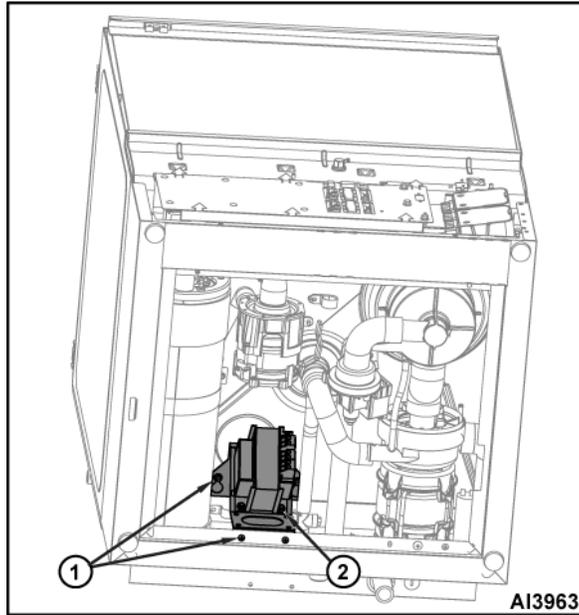
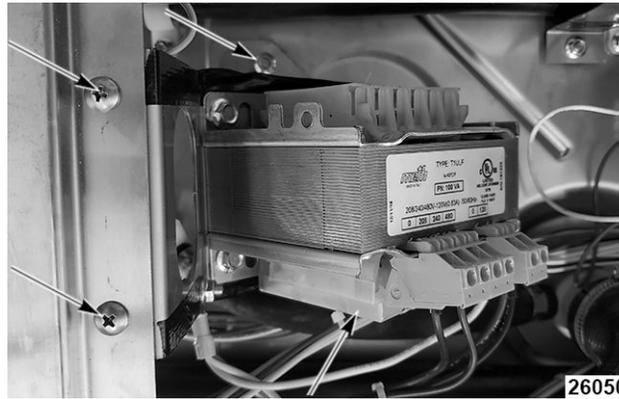

Fig. 30
Fig. 32
4. Loosen hardware from transformer bracket (1, Fig. 30).
5. Remove transformer with bracket out of machine (Fig. 32), then remove transformer from bracket (2, Fig. 30).